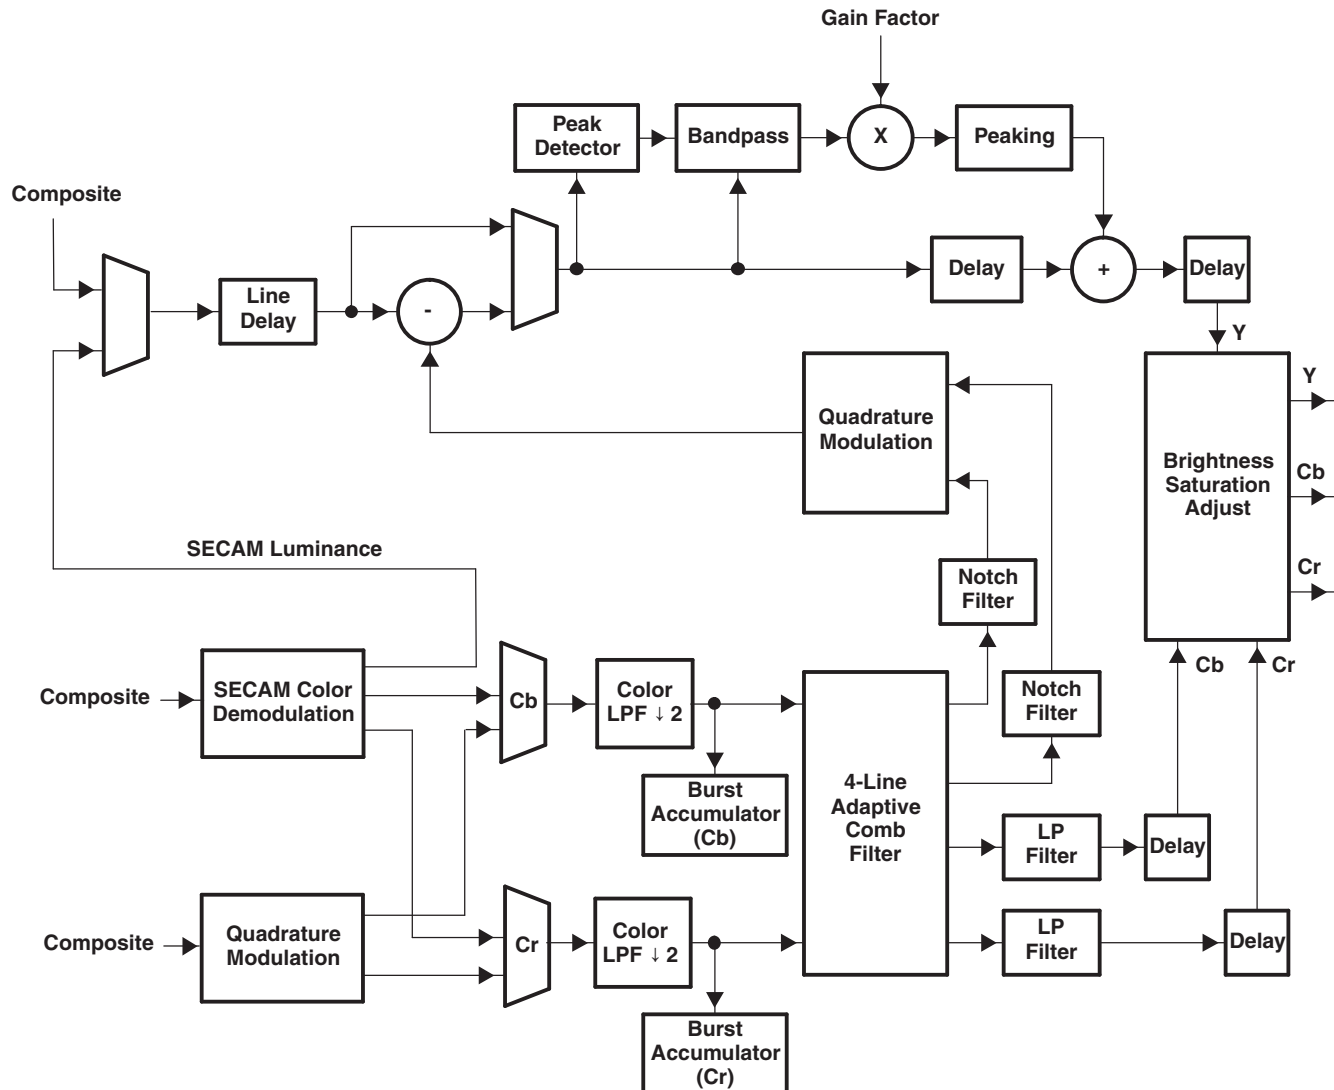

Figure 3-1. Composite Processing Block Diagram (Comb/Trap Filter Bypassed for SECAM)
The composite processing block processes NTSC/PAL/SECAM signals into the YCbCr color space. Figure 3-1 shows the basic architecture of this processing block.
Figure 3-1 shows the luminance/chrominance (Y/C) separation process in the TVP5150AM1 decoder. The composite video is multiplied by subcarrier signals in the quadrature modulator to generate the color difference signals Cb and Cr. Cb and Cr are then low pass (LP) filtered to achieve the desired bandwidth and to reduce crosstalk.